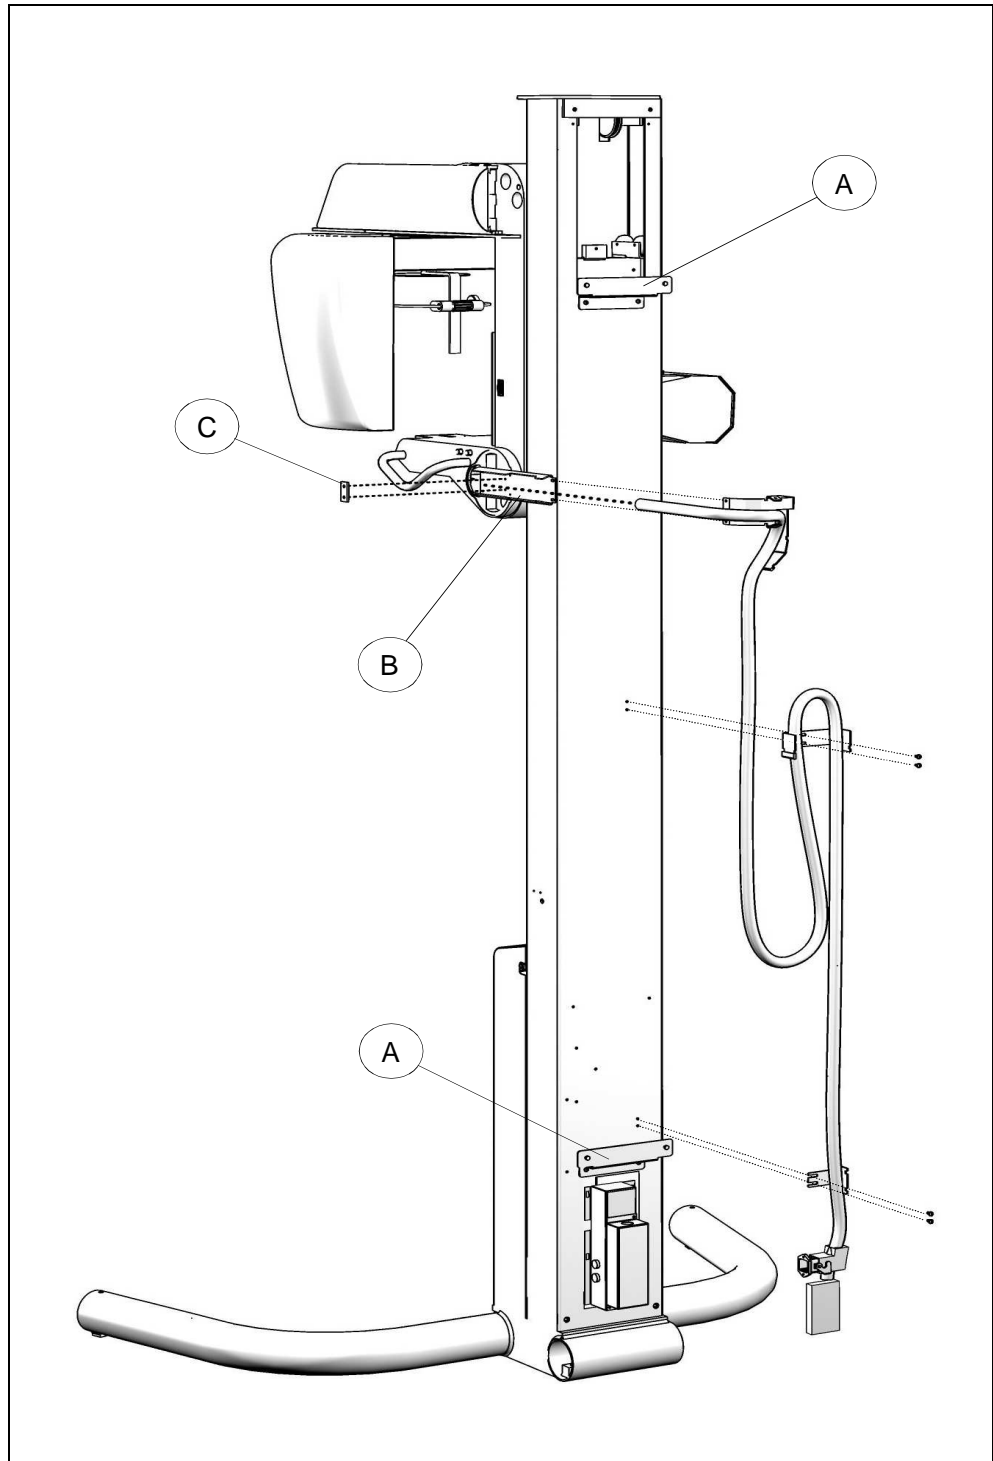

Figure 6-7
The electrical connection has to be made on the X15 terminal (refer to Figure 6-7 and the general wiring diagram at chapter 9.).
- 14.** Install the two brackets "A" (code 5608100300) and the cable support bracket "B" (supplied inside the relevant cover) (Figure 6-7).
- 15.** Fix the cables routing it as shown in Figure 6-7. The upper connectors have to enter inside the chin support through the relevant hole. Fix the cable to the bracket "B" using the plastic plate "C" (code 5608500600).
- 16.** Install the HUB support (normally supplied with the accessories) in the rear part of the column as shown in Figure 6-7, tightening it with the dedicated bracket (code 5608101100); fix the HUB power supply with a clamp ties.